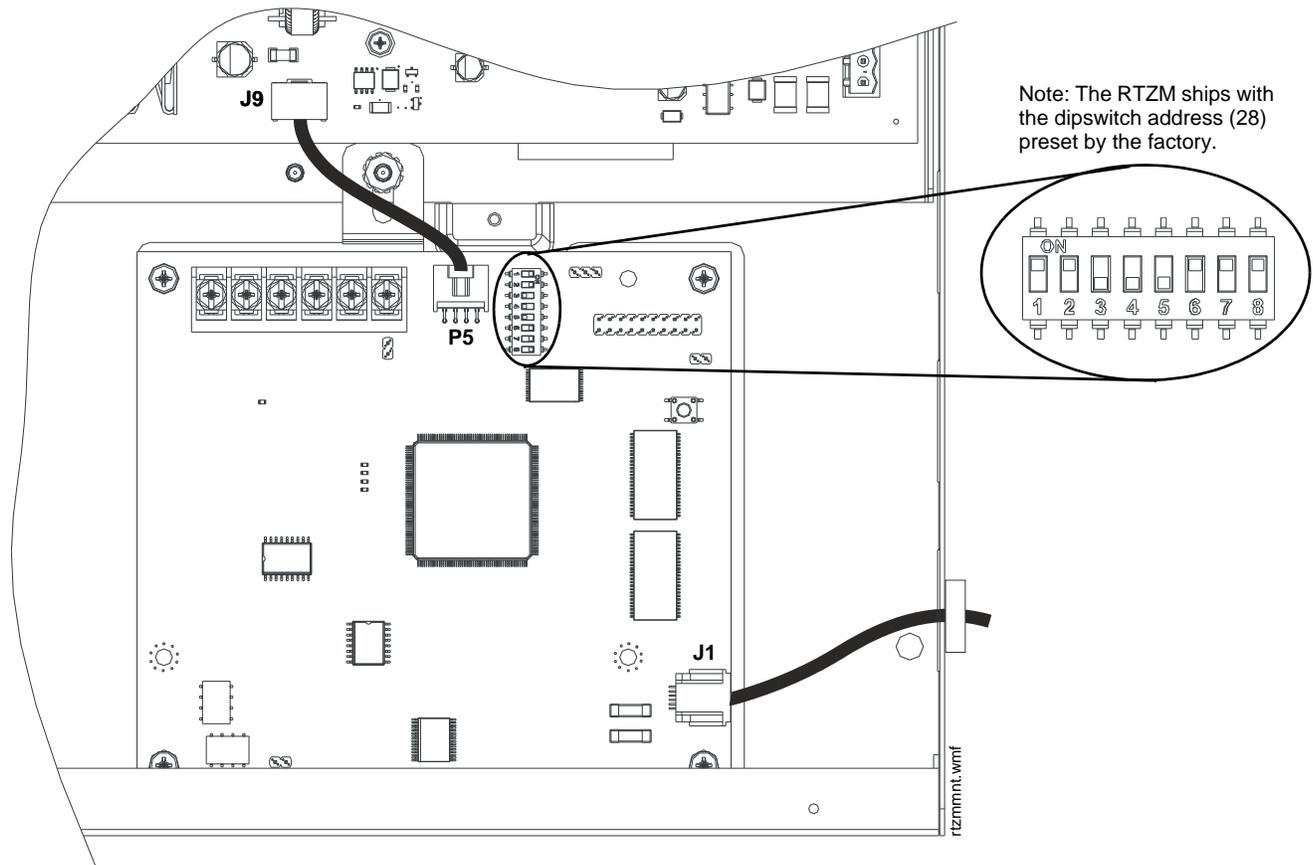

Figure 1 ECC-RTZM Installation
4. Connect phone line to J1 on the ECC-RTZM. See Figure 1.